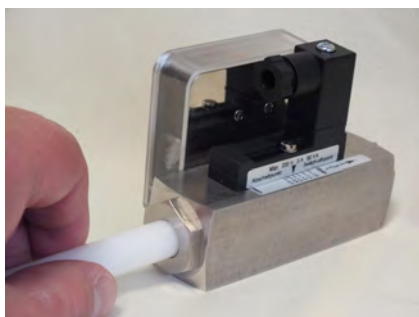

Fig. 61: Check for smooth operation
- 12.** ▶ Check the float for ease of movement (Fig. 61) by applying pressure with the test rod.